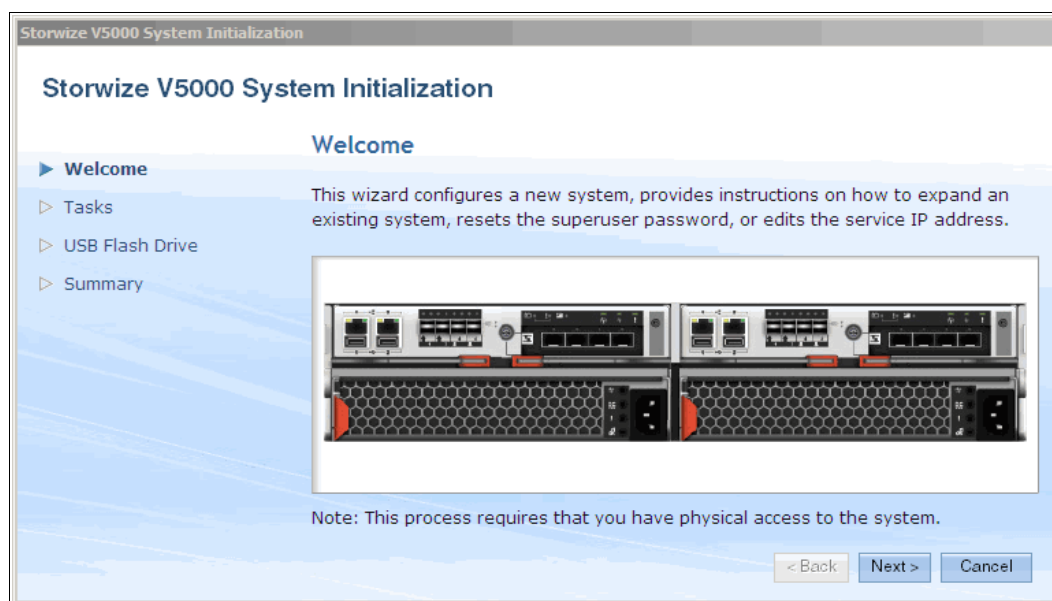

Figure 2-9 System Initialization: Welcome window
1. Plug the USB key into a Windows system and start the initialization tool. If the system is configured to autorun USB keys, the initialization tool starts automatically; otherwise, open My Computer and double-click the **InitTool.bat** file. The opening window of the tool is shown in Figure 2-9. After the tool is started, select **Next** and then select **Create a new system**.